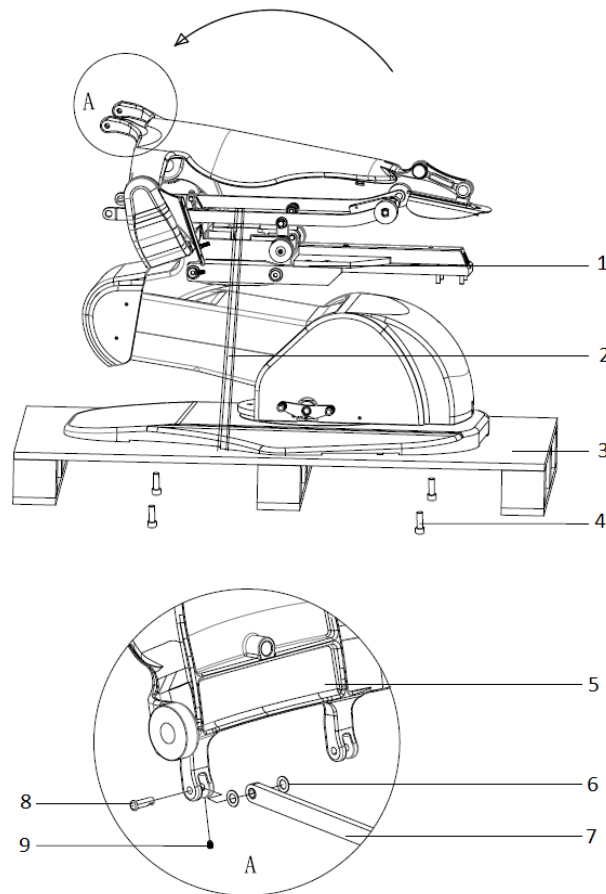

Figure 1. Dental Chair Unboxing and Assembly
2. Use a Philips screw driver to remove 4 shipping screws ④ on the bottom of the wooden shipping pallet ③. Use scissors to cut the shipping straps ②, then move dental chair ① from the shipping pallet to the ideal location for installation.
3. Take out two connector pins ⑧ located at the bottom of the backrest ⑤. Slowly rotate backrest ⑤ so that the backrest connector holes are aligned with the seat frame support holes ⑦ as shown on Figure 1.A. Put connector pins ⑧ through the backrest connector holes and seat frame support holes on both sides. Do not forget to put nylon washers ⑥ in between of connector holes as shown on Figure 1.A.
4. Verify connector pins are installed correctly. Secure them with set screws ⑨.